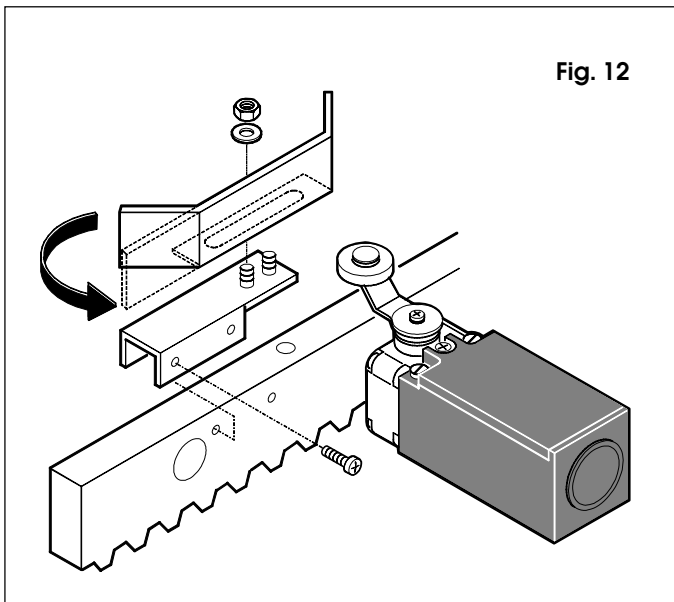

Fig. 12
- 8) When the slow-down and/or braking time (see instructions for the 748D equipment) has been programmed, it may be necessary to slightly correct the position of the plates, if the stop points are not as required. If this operation is performed, you must make sure that the gate never stops less than 2 cm from the mechanical travel limit stops and that the electro-mechanical travel limit wheel is at least 2 cm from the end of the plate's straight area; if necessary, adjust the slowing down time and/or straighten the final profiled part of the plate (see fig.12).